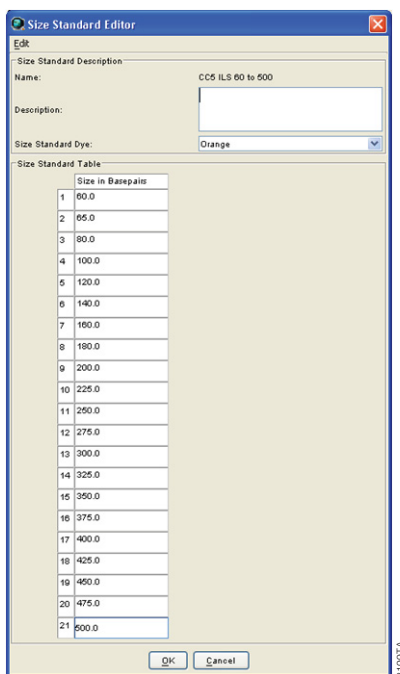

Figure 18. The GeneMapper® ID Software, Version 3.2, Size Standard Editor.
5. Enter a detailed name, such as “CC5 ILS 500 Y23 advanced”, in the Size Standard Editor (Figure 18).